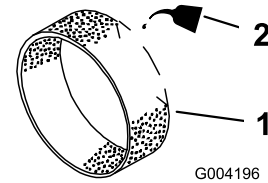

Figure 44
3. Put one or two ounces of oil on the pre-filter (Figure 44).